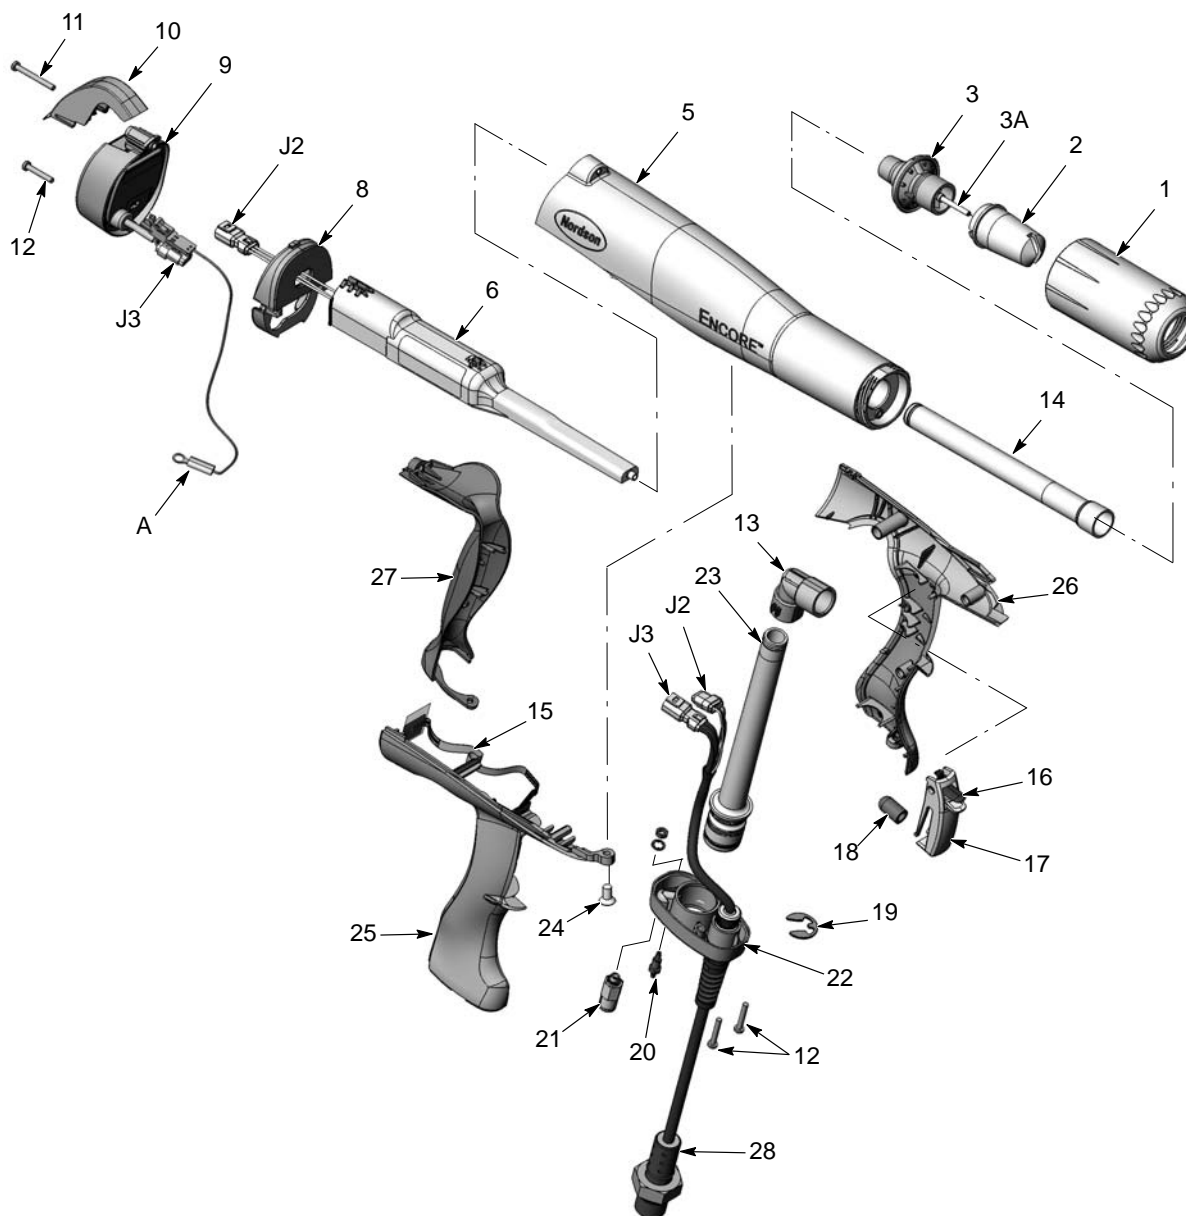
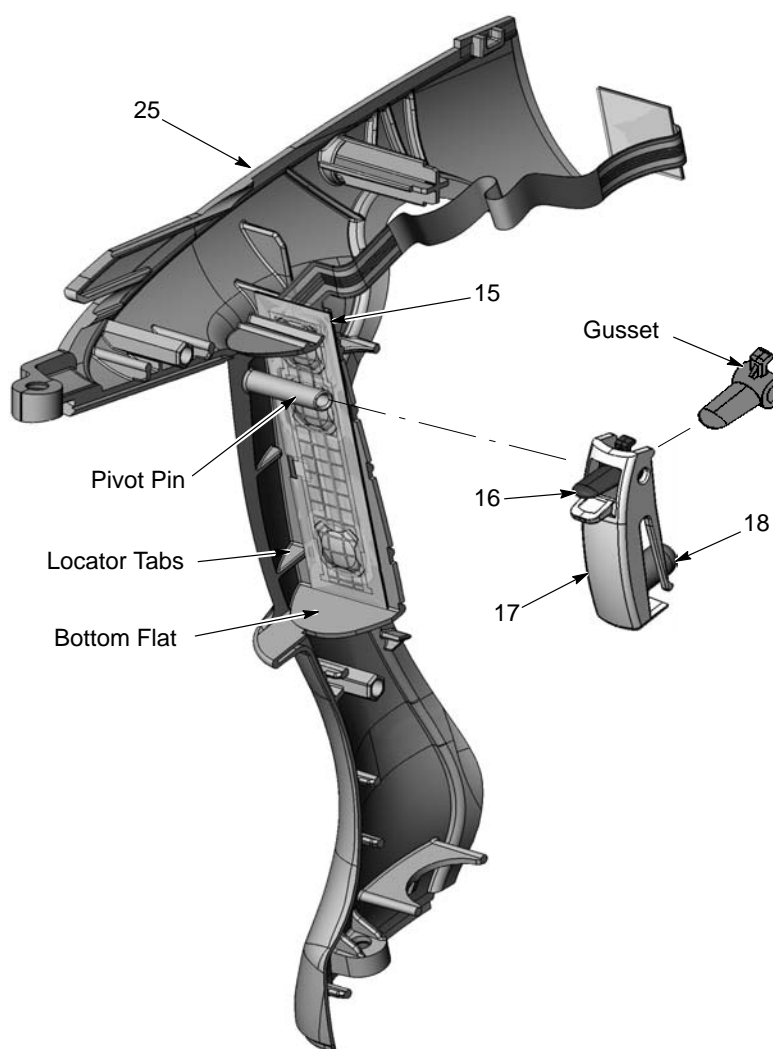

Figure 5-3 Exploded View of Spray Gun (Numbering is same as parts list)
Figure 5-10 Trigger Switch and Trigger Mounting
See Figures 5-3, 5-4, and the figures accompanying the disassembly steps.
2. Install the dual barbed fitting (20) into the base and slip the gun cable and display module ground terminals over the fitting. Install the internal-toothed lockwasher and nut on the fitting and tighten the nut.
3. If the check valve (21, Fig. 5-3) was removed, thread it into the base. Do not overtighten the valve.
4. Install the inlet tube with O-rings installed (23) into the handle base (22).
5. See Figure 5-10. If removed, install the trigger switch (15) on the mounting flat of the right handle (25), up against the tabs and bottom flat. Press firmly on the switch to secure it in place.
6. Assemble the actuator (18) on the main trigger (17) boss. Note the orientation of the settings trigger (16) gusset, then insert it into the main trigger. Align the pivot holes in the triggers then slide the triggers over the trigger pivot pin on the right handle half.